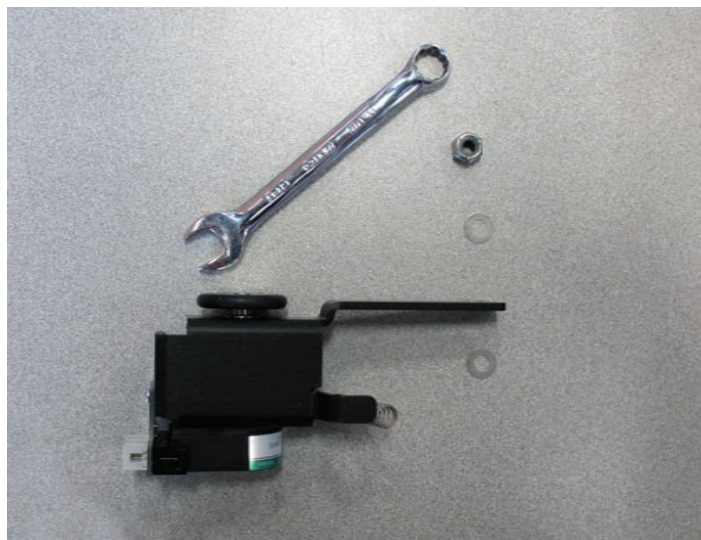

Figure 10
**Step 6:** Place the remainder of the parts (**Figure 10**) on the 2" screw as follows: large outside-diameter (OD) washer, encoder, large OD washer, Nyloc nut (**Figures 11, 12, and 13**).